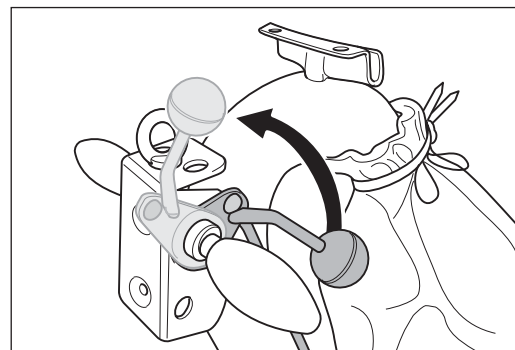

Fig. 74 Lift the sanding drum off the floor by turning the lowering lever at the handle upwards
During the test run, the sanding drum must be raised off the floor (fig. 74)!
- 1 **Lift the sanding drum off the floor by turning the lowering lever at the handle upwards (fig. 74)!**
- 1 Lift the sanding drum off the floor by turning the lowering lever at the handle upwards (fig. 74).